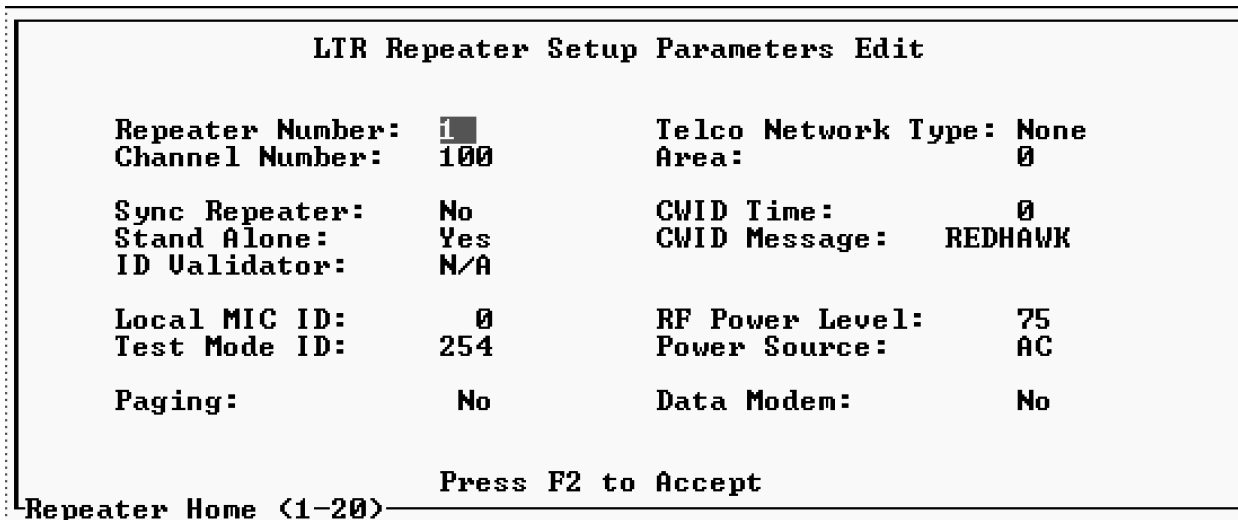

Figure 5-1 SETUP PARAMETERS
6. The Setup Parameters screen appears (see Figure 5-1). Fill in the parameters for this repeater. A brief description of the parameters is in Table 5-1. Full descriptions are in Section 4.3.1.